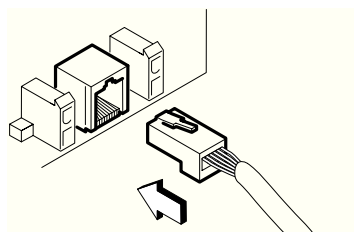

Fig. 9 – Connecting the cable
- ▶ Connect the control device plug (e.g. handswitch) in the direction of the arrow (Fig. 9).